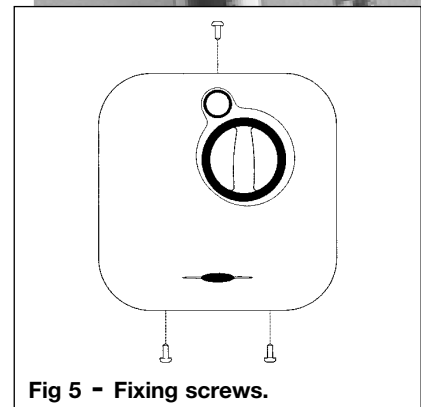

Fig 5 - Fixing screws.
2. Fit the front cover and fix with fixing screws (see fig 5).